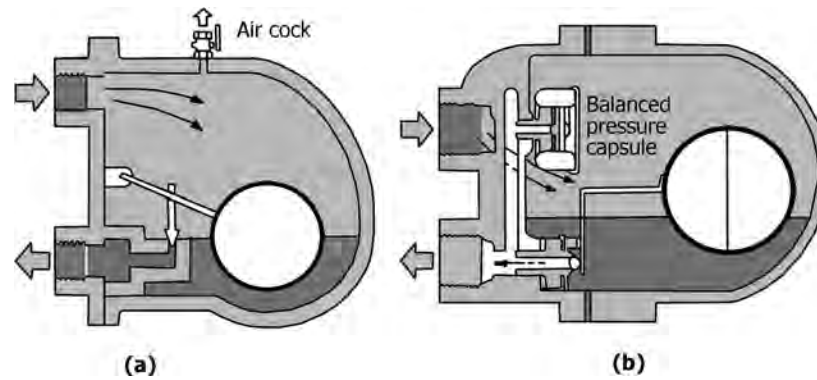

FIGURE 12.18 A ball float trap with (a) air cock and (b) thermostatic air vent. (Courtesy: Spirax Sarco.)
- Figure 12.18 illustrates the working of these traps.